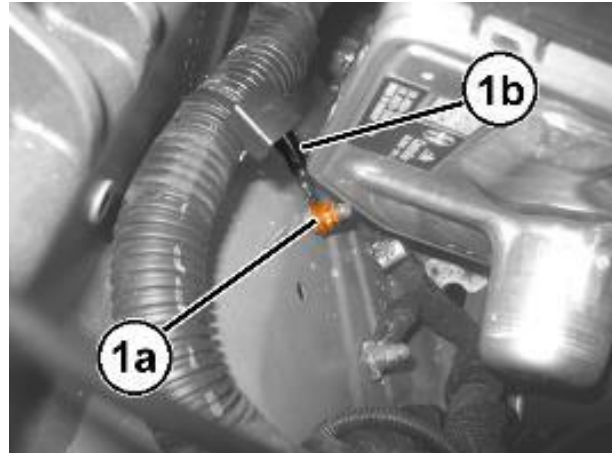

Figure 99 – Electrical Ground
43. Remove the nut (1a) and disconnect the earth lead (1b) from the body (Figure 99).